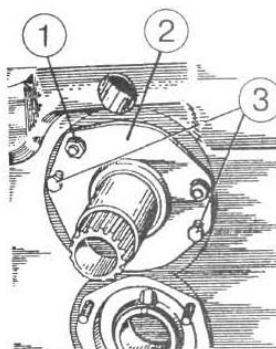

Figure 4.45
- a) unscrew three nuts 1 (Figure 4.45);